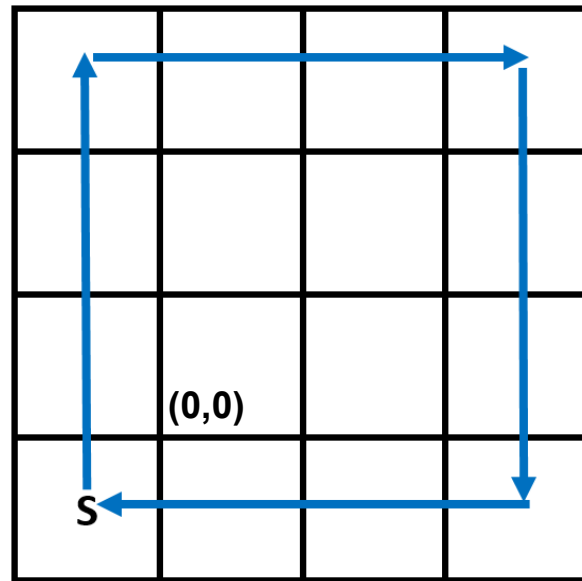

Figure 3. 3-by-3 tile trajectory using `SquareDriver`.
- The zero values for (X, Y) , i.e. $(0,0)$, must respect the convention shown in Figure 3.
The TA will ask you to run your robot off the center of a tile, as shown by **S** in Figure 3. The robot should then follow the 3-by-3 tile square trajectory using `SquareDriver`. The robot should work using odometry correction. Throughout the demo, the TA will observe the reported (X, Y, θ) values on the robot's LCD screen. When the robot stops at the final position (X_F, Y_F) near **S**, the final readings on the LCD screen (X, Y, θ) are used to evaluate the odometers accuracy and calculate the **error distance ϵ** as: